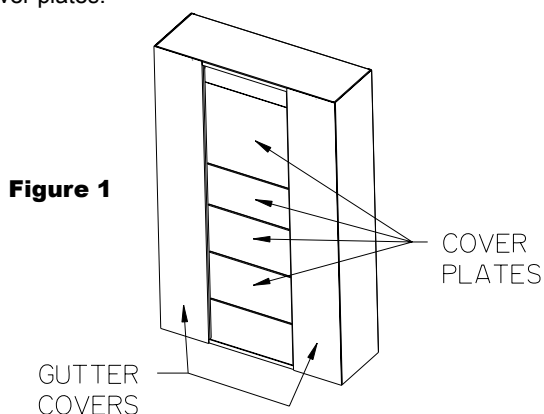

Figure 1
2. Reference fig. 1 - Remove the (2) gutter covers and all cover plates.